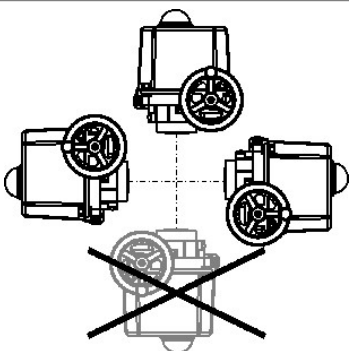

Figure 2: Installation position
- Any installation position is allowed except "cover pointing downwards" (Figure 2: Installation position).